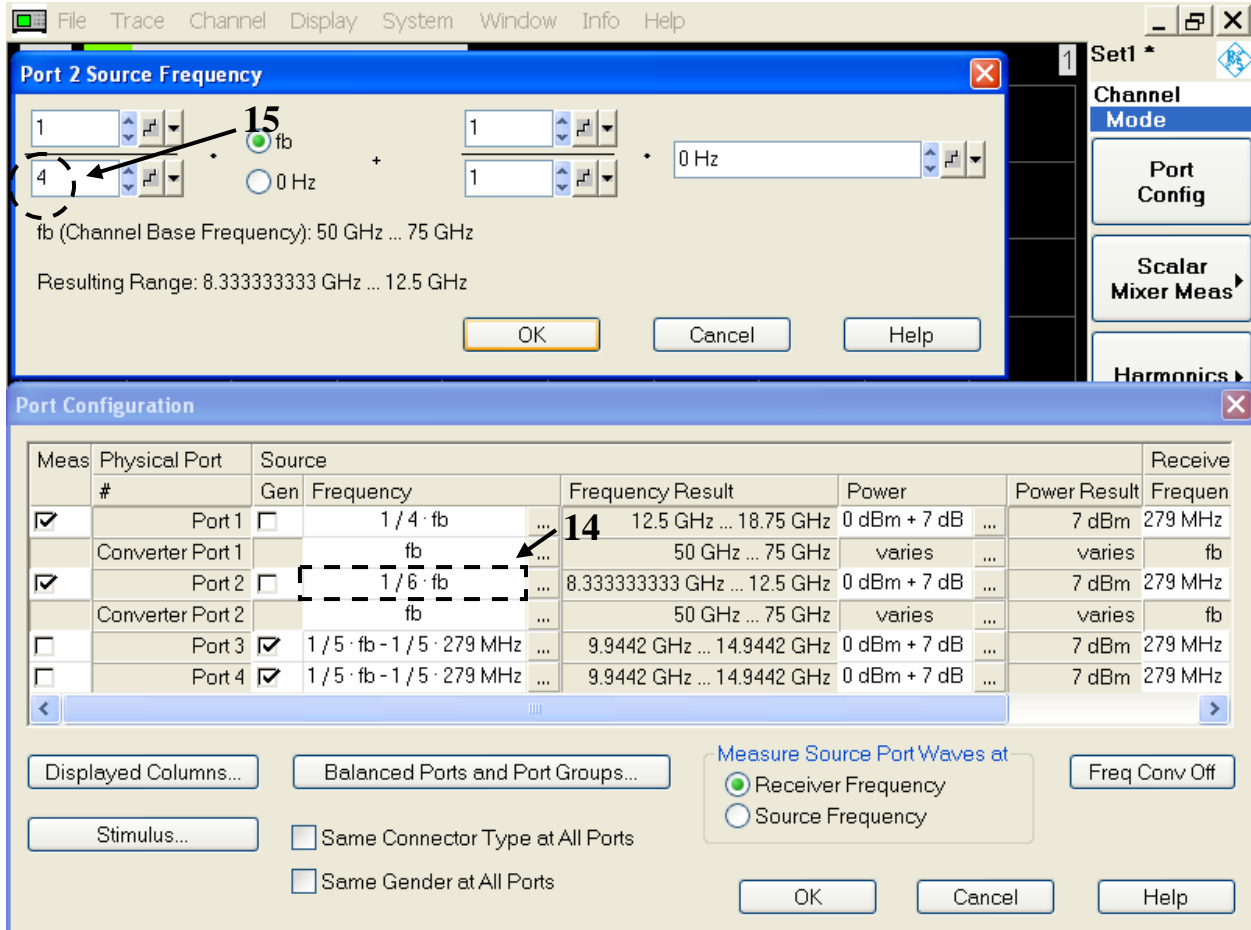

Figure 8 – Configured RF Port 2 Multiplication Factor in Configuration Table
14. Click on the cell under frequency column next to Port 2 without a check mark to change the RF multiplication factor $1/6 \text{ fb}$ (Figure 8).